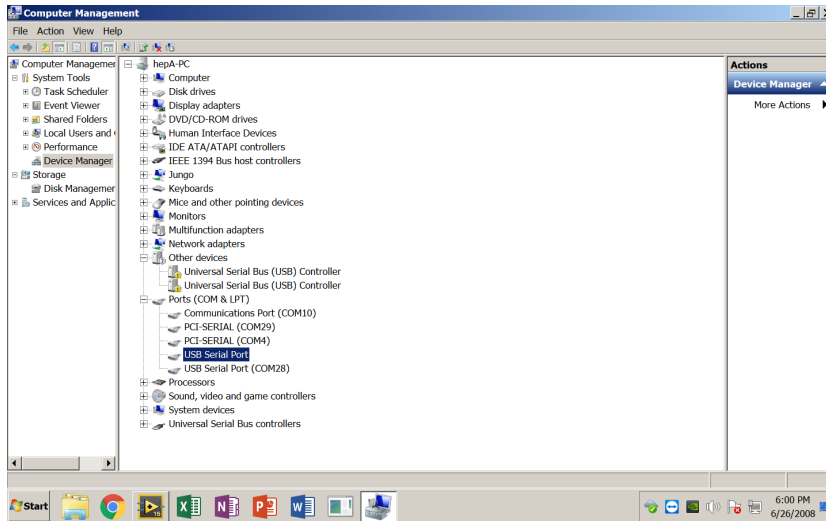
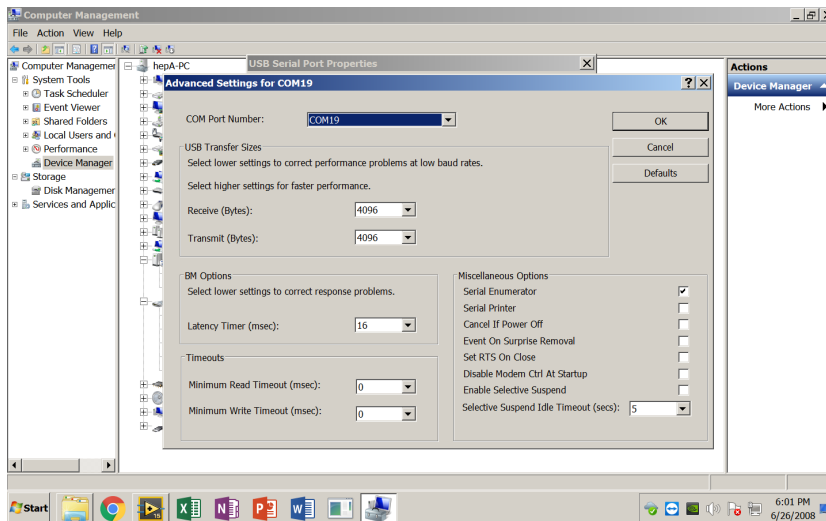

Figure 26: The device manager displaying the ports in use.
Figure 27: The COM port number displayed under Properties > Port Settings > Advanced.
5. If the port number is not displayed when the new USB device is detected (as seen in fig. 26), right click on the device, select Properties > Port Settings > Advanced, and the window with the COM port number will be displayed (fig. 27).